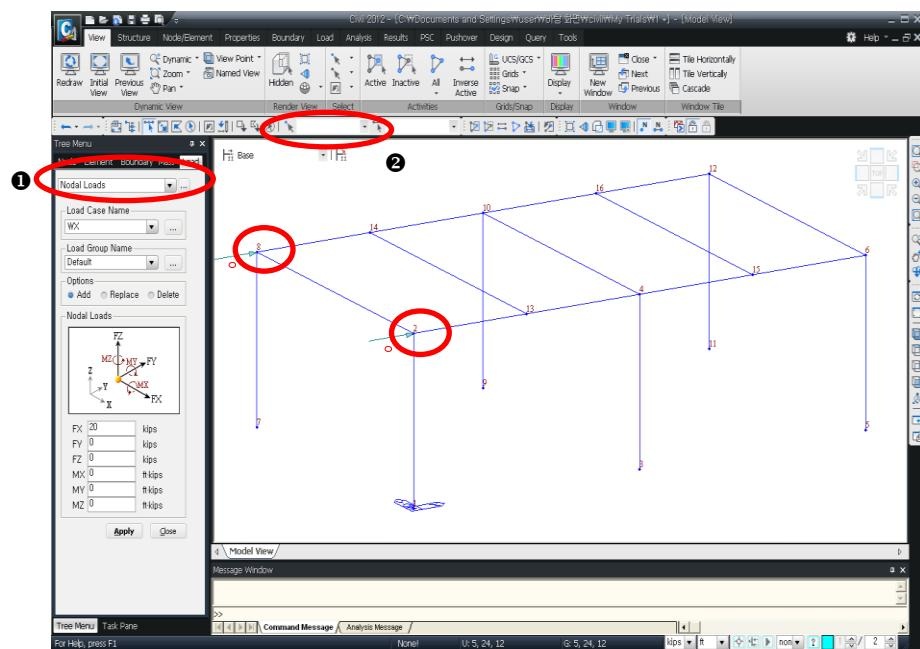

Figure 1.17 Entry of X-Direction Wind Load
The color of the selected nodes will change and nodes 2 and 8 can be verified in the Select-Identity Nodes in Fig.1.17-②.
1. Select **Nodal Loads** from the functions selection field. (Fig.1.17-①).